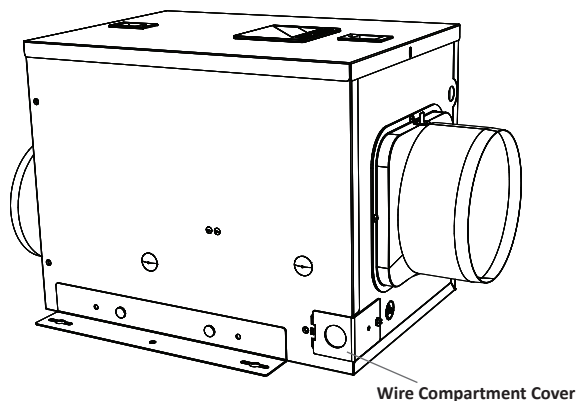

Figure 5 - Remove the wire compartment cover
1. Remove the wire compartment cover screw and set aside the screw and cover in a secure place (Figure 5).